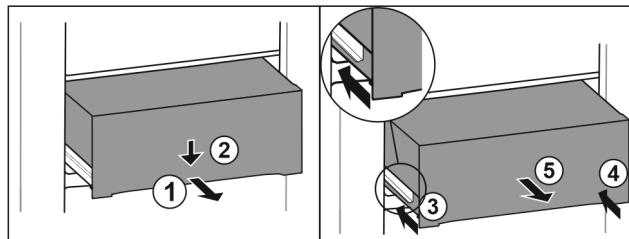

Fig. 88
- ▶ Pull out drawer half-way. Fig. 88 (1)
- ▶ Push the drawer down at the front. Fig. 88 (2)
- ▶ Push the left rail in by about 2 cm. Fig. 88 (3)
- ▶ Push the right rail in by about 2 cm. Fig. 88 (4)
- ▶ Remove drawer to the front. Fig. 88 (5)